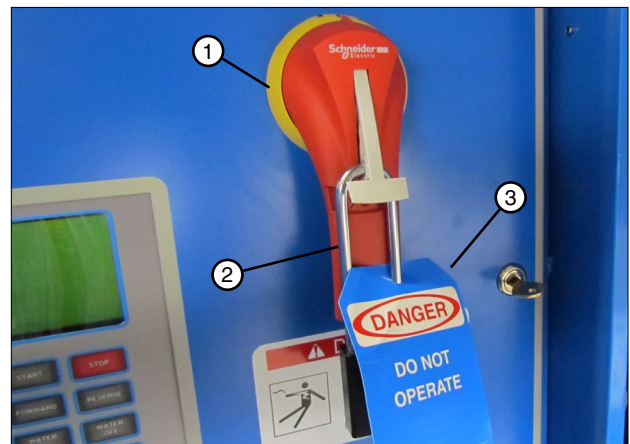

Figure 73-2 1. Main Disconnect
2. SHUT OFF and lock the control panel main power disconnect. See Figure 73-2.
FILL OUT the blue (OSHA safety color code) tag and attach to the disconnect after locking. See Figure 73-2.